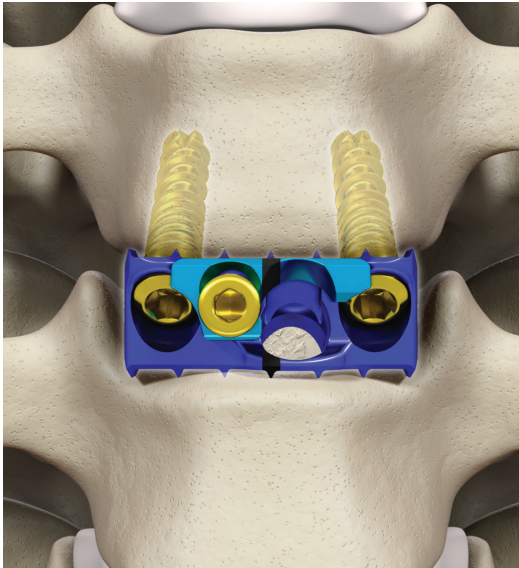

Figure 30
- Repeat previous step on the contralateral side. When both lateral screws have been placed, remove the ATO inserter guide by sliding the inserter sleeve toward the modular impaction cap handle and pulling the inserter away from the implant using a gentle, side-to-side motion (Figure 30).